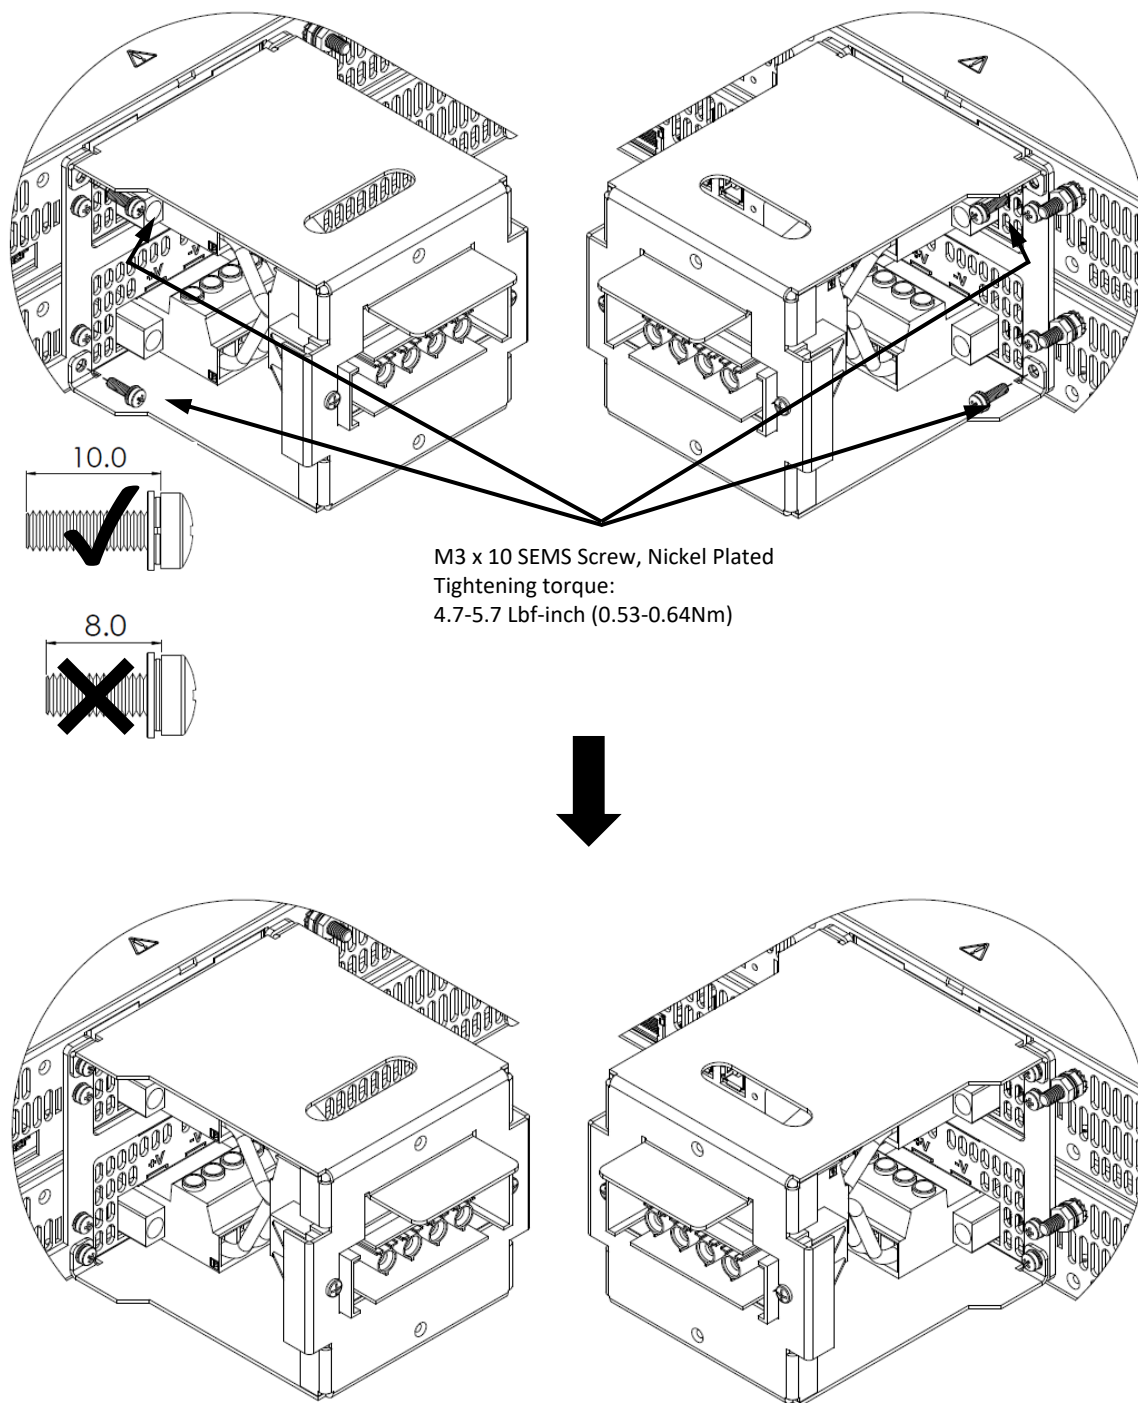

Figure 27: Output bracket G+10KW installation
5. Attach output bracket G+10KW to fixing bracket using four SEMS screws, ten millimeter screw length, screws as illustrated in Figure 27.